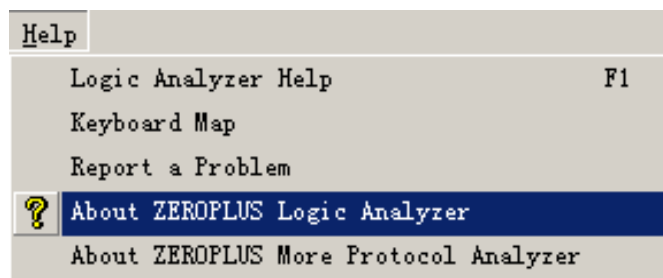

Fig. 6-3 – About ZEROPLUS Logic Analyzer
- A:** Click **Help** from the menu (See Fig 6-3),
and then select **About ZEROPLUS Logic Analyzer**(See Figs 6-3 and 6-4).